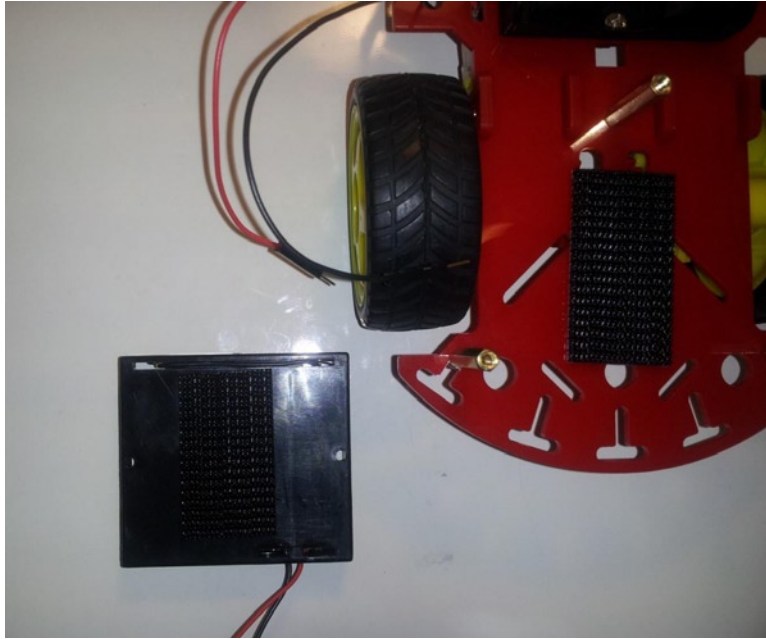

Figure 31-5. Add Velcro to the battery holder and the chassis
4. Attach Velcro to the 4-AA battery holder (this is not the 4-AA battery holder that comes with the chassis). Then attach Velcro to the bottom plate of the chassis. (The top plate will cover the battery holders, which is why we had you hold off on attaching the top plate.) Figure 31-5 illustrates this process.